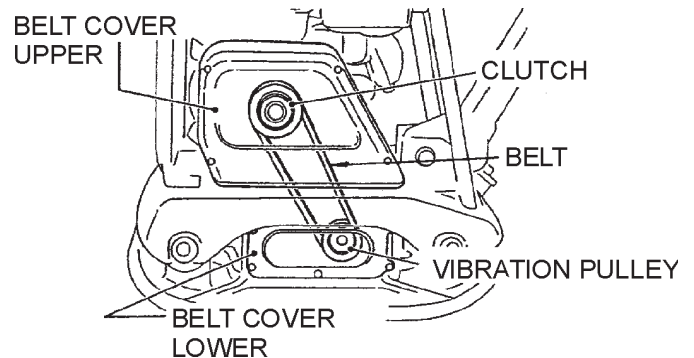

Figure 9. V-Belt Location
1. To check the V-belt tension (Figure 9), remove *upper* belt cover.